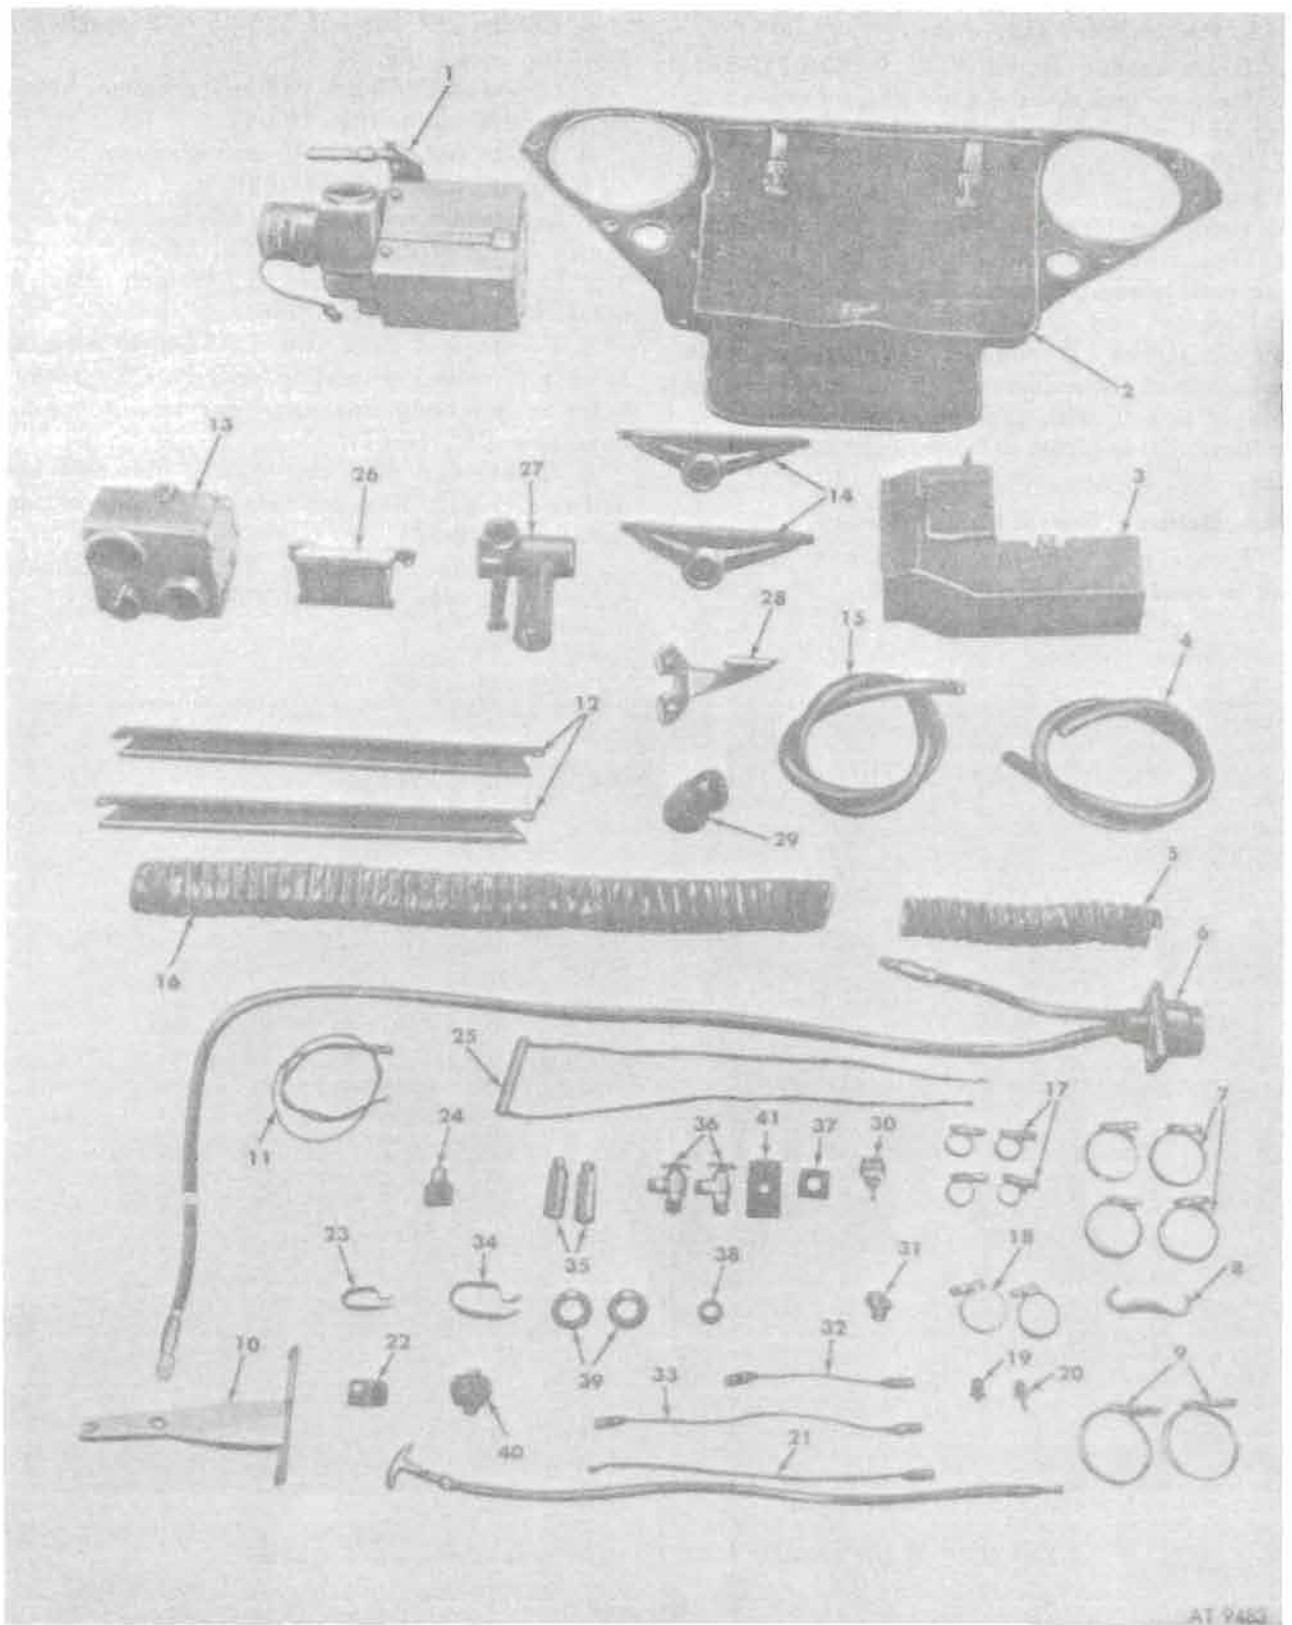

Figure 18-59. Hot water heater kit (-25°F.) parts and components.
b. Contents of the heater kit (—25° F.) are illustrated and identified in figure 18-59.
Key to figure 18-59.